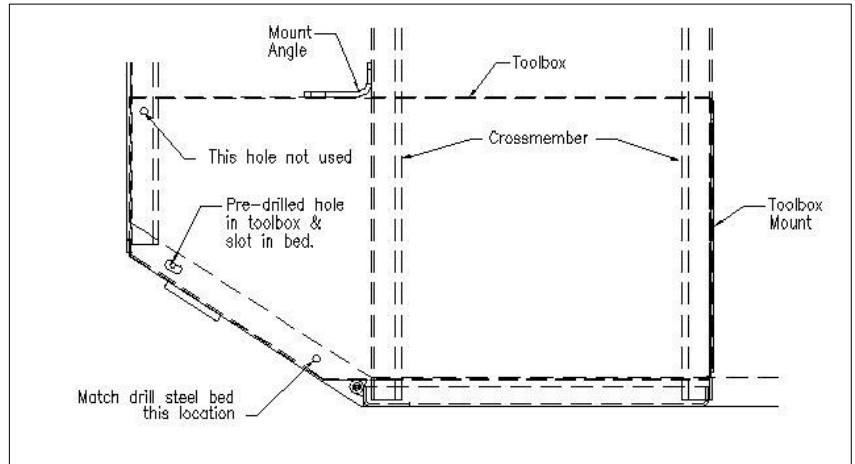
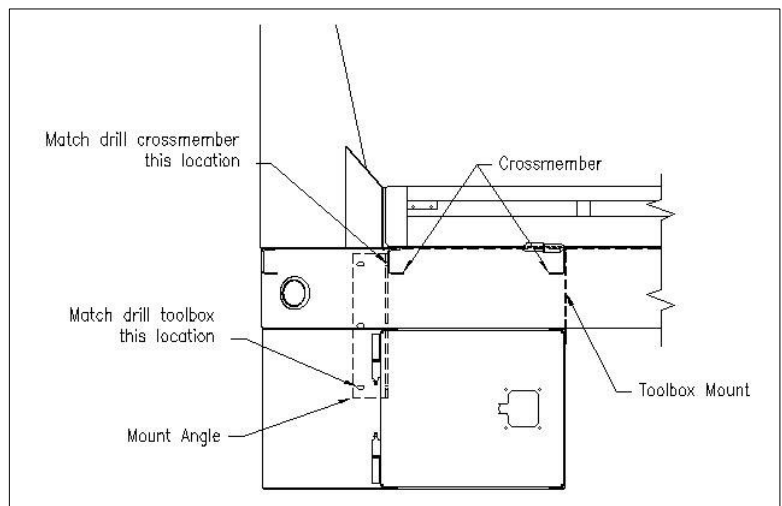

Figure 3 - Top View
Figure 4 - Side View
1. Lift toolbox into place and line the hole in the top of the toolbox with the existing slot in the truck bed as shown in Figure 3. Line up toolbox so that the tapered portion of the toolbox is flush with the tapered part of the bed. The toolbox mount should fit against rear side of crossmember as shown in figure 4. After leveling the toolbox, clamp the toolbox mount to the crossmember. Using the mount plate holes as a guide, drill (2) – $25/64$ " holes through crossmember. Fasten to truck bed with supplied hardware.
2. Match drill up through steel treadplate lip at location shown in figure 3. Place the mount angle at the back of toolbox and against the crossmember as shown in Figures 3 and 4. Drill $25/64$ " hole into the crossmember and into toolbox. Secure with supplied hardware.